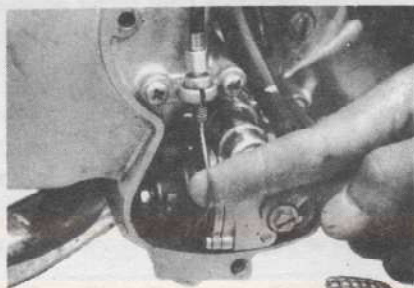

Fig. 3-7
5. Disconnect the oil line at the pump, plug the line with a bolt, and disconnect the pump cable. (Fig. 3-7)